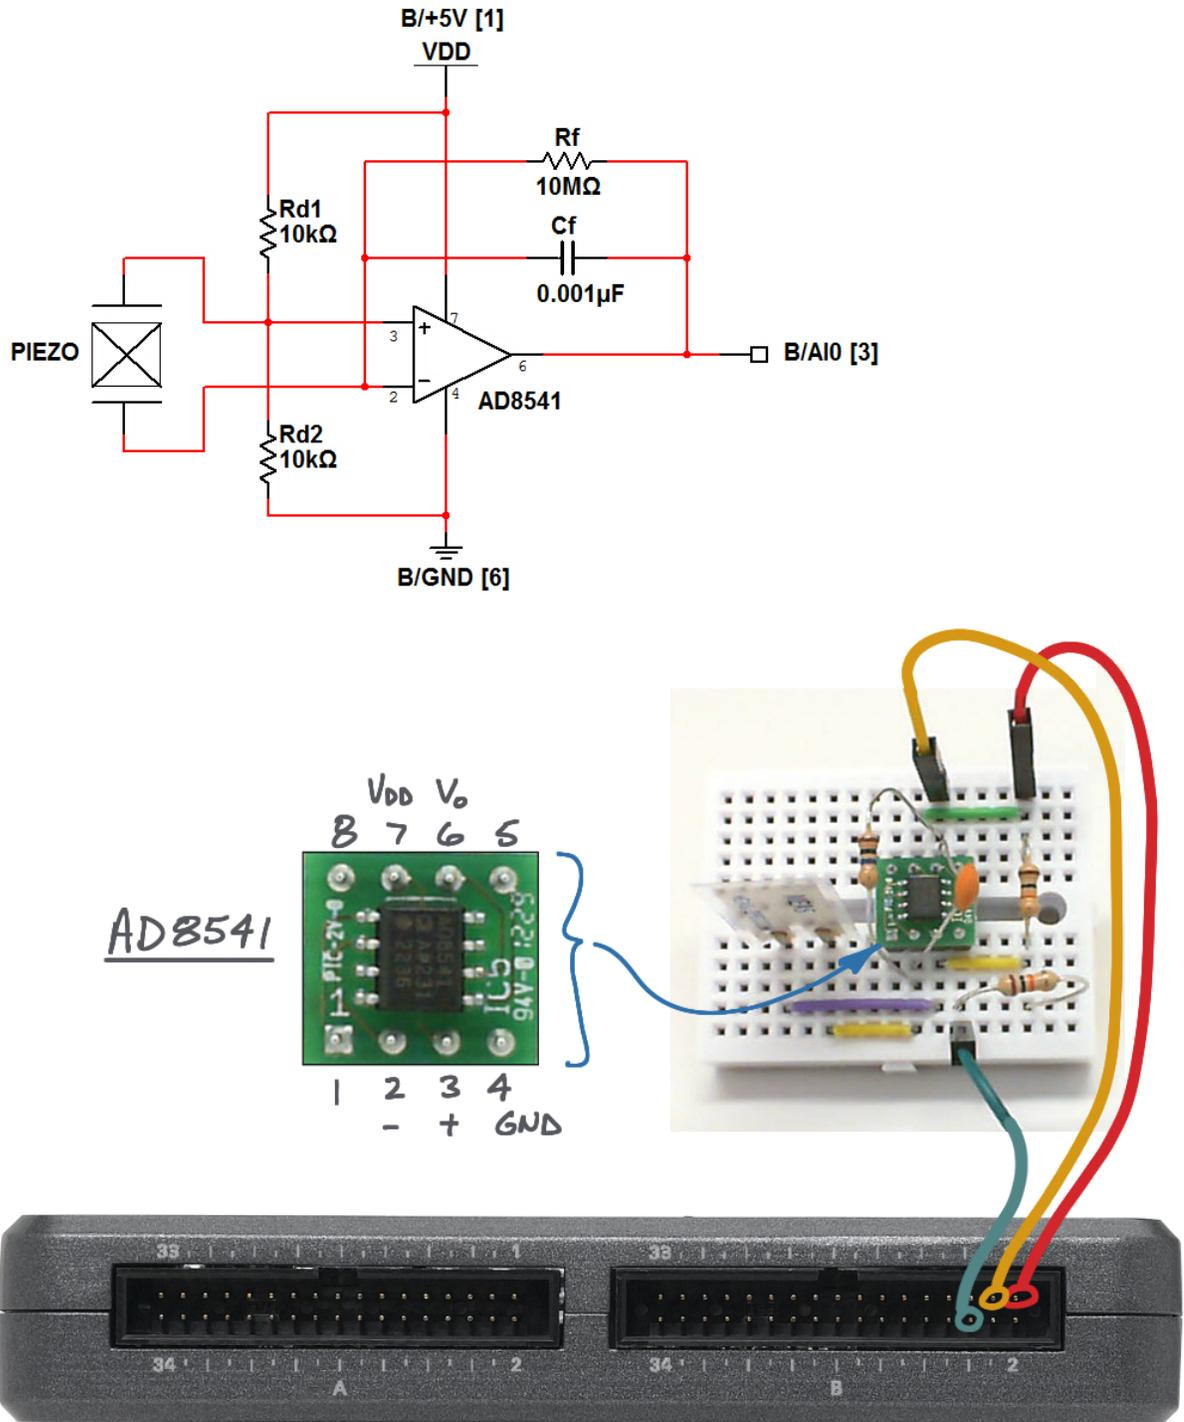

Figure 16.2: Demonstration circuit for piezo sensor: schematic diagram, recommended breadboard layout, and connection to NI myRIO MXP Connector B.
**Build the interface circuit:** Refer to the schematic diagram and recommended breadboard layout shown in Figure 16.2 on the next page. The piezo sensor interface circuit requires three connections to NI myRIO MXP Connector B: